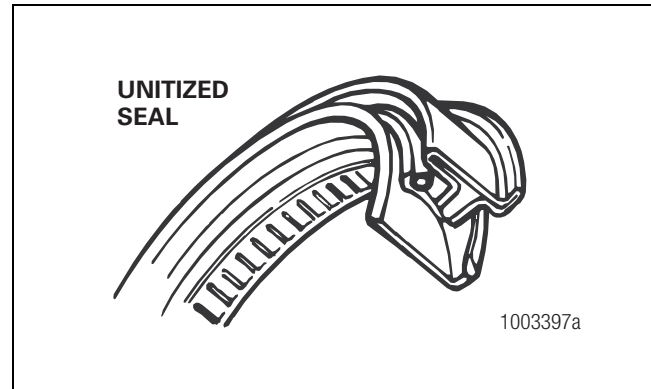

Figure 5.31
1. Remove the replacement unitized seal from the package. Figure 5.31.